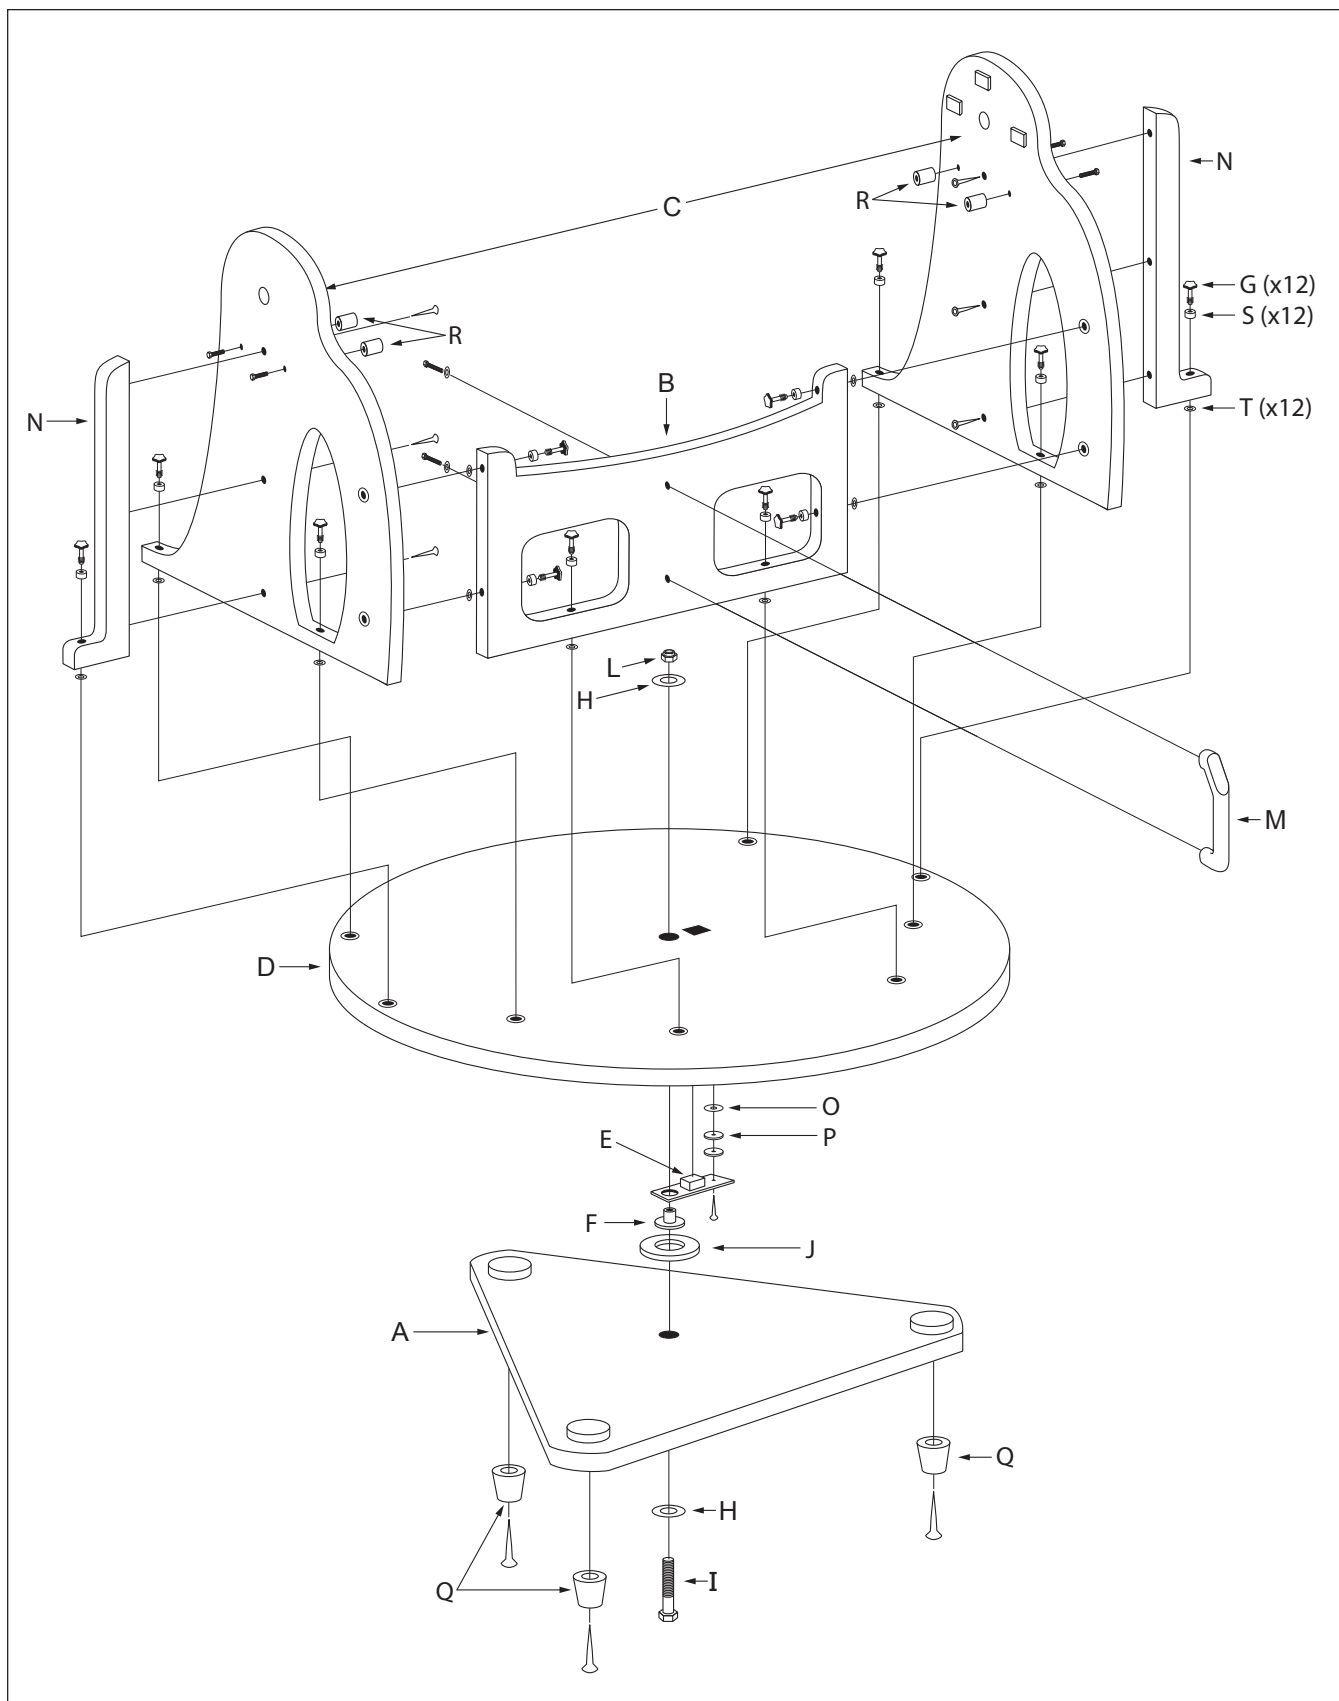

Figure 7. Exploded view of the XX14i base.
Refer to **Figure 7** during base assembly. When tightening screws, tighten them until firm, but be careful not to strip the holes by over-tightening. If you use an electric screwdriver, do final tightening with a standard screwdriver to avoid stripping.
1. With a Phillips screwdriver, screw the feet (Q) into the underside of the ground baseplate (A) using the feet wood screws provided. Insert the screws through the feet and thread them into the predrilled starter holes.
2. Connect the side braces (N) to the side panels (C) using three of the base assembly screws for each panel. The brace should be attached to the outside surface of the side panel, which bears the SkyQuest XX IntelliScope label. The screws go through the holes in the side panels and thread into the starter holes in the side braces. Use the 4mm hex key to firmly tighten the screws.
3. Now you will install the captive connecting bolts (G), each of which is already fitted with a black hand knob. There are 12 connecting bolts altogether; refer to **Figure 7** for locations. Start with the front panel (B), which has through holes for six connecting bolts.
First, slide a spacer (S) onto a collecting bolt (G). Then insert the connecting bolt into the through hole, in the direction indicated in **Figure 7**. Holding the knob with one hand, use your other hand to press a rubber washer (T) over the threaded (protruding) end of the bolt. It will be a tight fit; you may have to work the washer a bit to get it on.
25. Attach the handle (M in **Figure 7**) to the front brace (B) with the two handle screws. Place one handle washer on each screw, then press the handle against the front brace (the end of the handle with the Orion logo should be facing upwards). Thread the screws from the interior surface of the front brace into the handle until tight using the supplied crescent wrench.